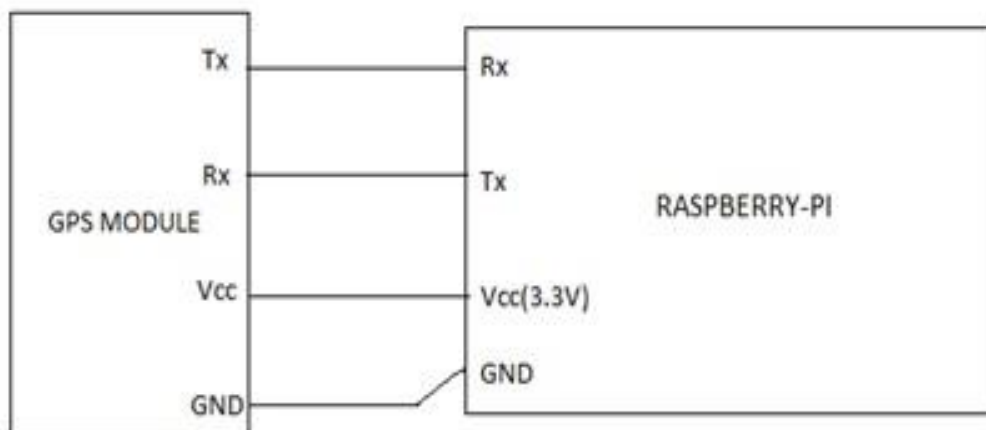

Figure-2.3 Connections between Raspberry Pi and GPS module
- Make the connections as shown in figure-2.3.